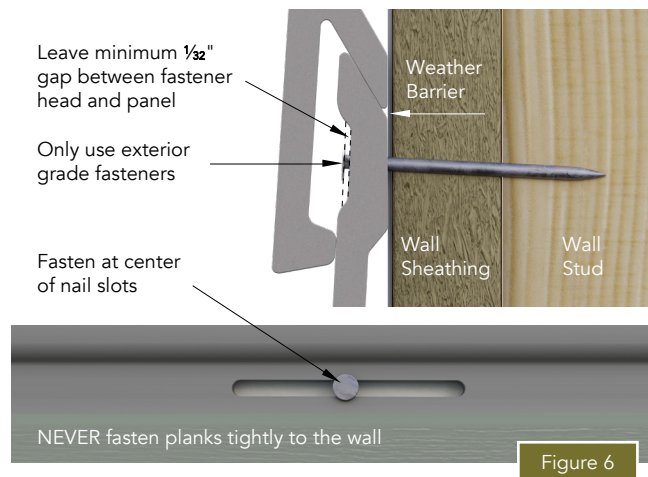

Figure 6
- Everlast is a floating siding system that accommodates lateral expansion and contraction within pocketed trim. Therefore, never hard nail siding planks tightly to the wall (Figure 6).
- Always fasten siding planks through the center of the pre-punched nailing slots (Figure 6).
- Always leave a minimum  $\frac{1}{32}$ " gap between the nail head and the nailing hem (Figure 6).
- Fasteners must be long enough to penetrate beyond the sheathing a minimum  $\frac{3}{4}$ ". Note: Fasten into studs wherever possible (Figure 6).